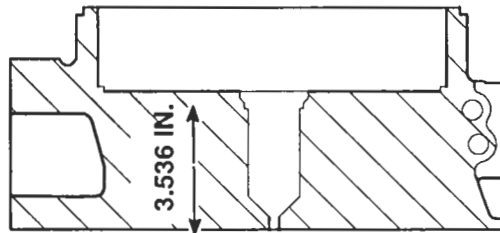

Figure 10. Minimum Distance Between Top and Bottom Faces of Cylinder Head
- c. If the head is to be refaced, remove the injector tubes prior to machining. Do not remove more metal from the fire deck of any cylinder head below the minimum distance of 3.536 inches (Figure 10.)